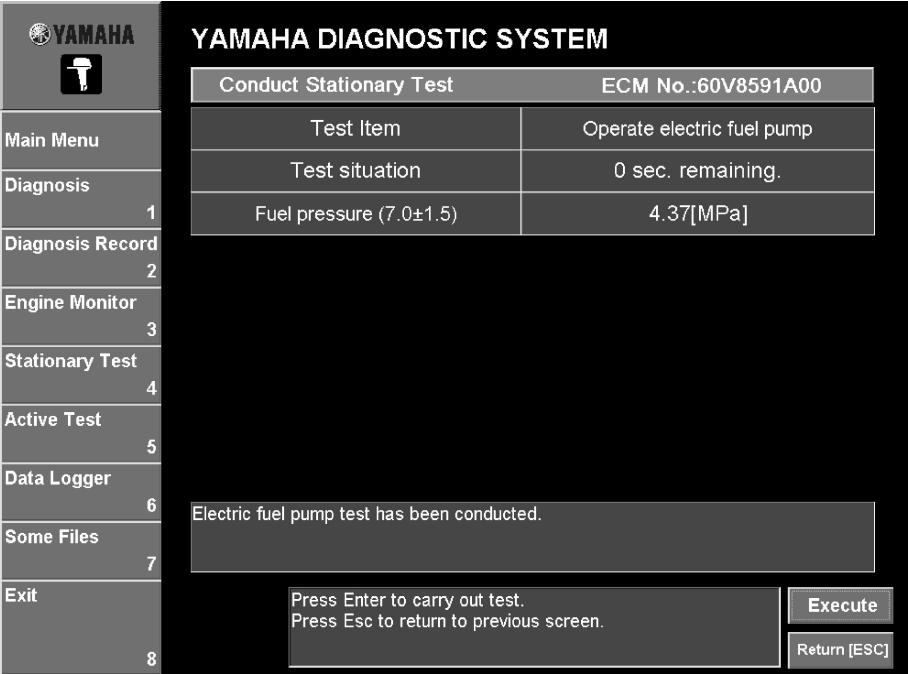

Fig. 52
4. To perform the test again click the **Execute** button or press the Enter key on your keyboard. To perform a different test, click the **Return [ESC]** button or press the Esc key on your keyboard to return to the window where a different test can be selected. (Fig. 52)